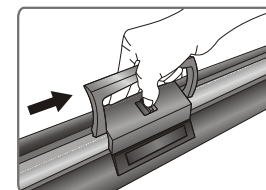

Figure 6
3. Pull up the handle while using the thumb to release the tube lock as arrow indicates ( Figure 6 ).